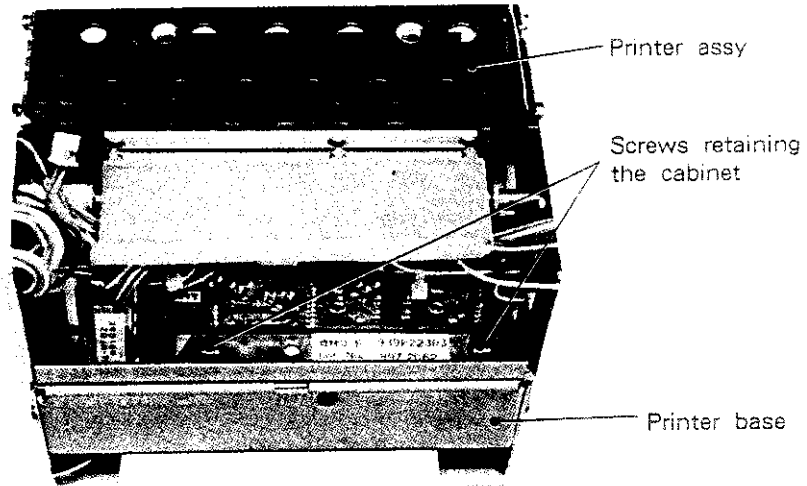

Fig. 2-6
10. Remove screws retaining the printer base. (Fig. 2-6)
5. Remove the printer base. (Fig. 2-6)